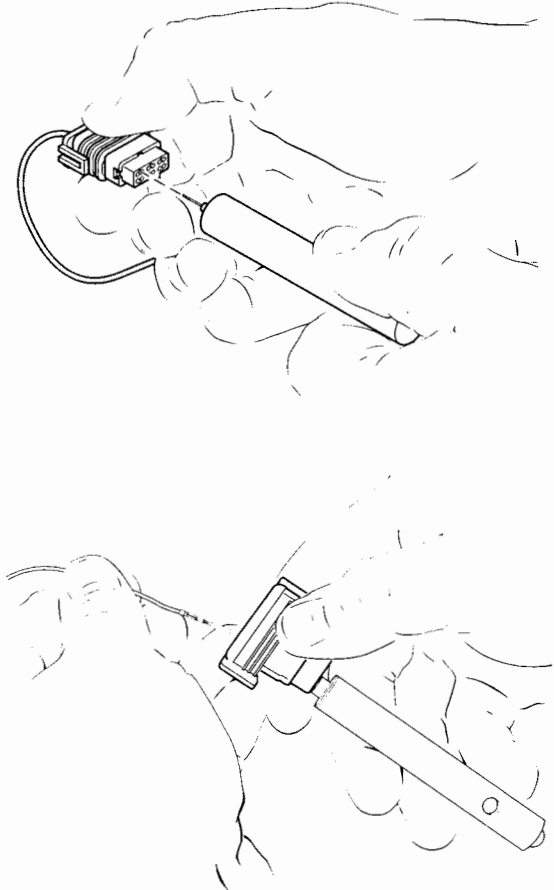

Figure A-46. Packard Micro 64 Connector: Insert Tool and Remove Terminal
5. See Figure A-46. Push the adjacent terminals all the way into the connector housing and then insert tool into hole until it bottoms.